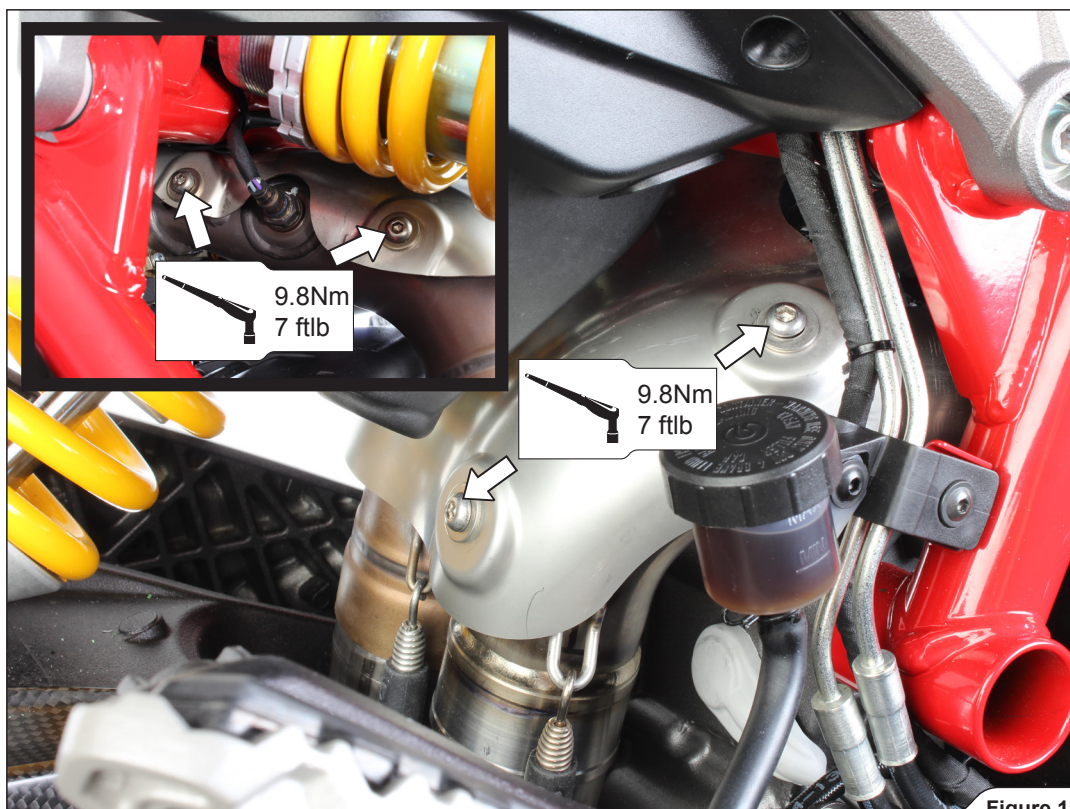

Figure 18
5. Install the rear stock heat shield, using stock bolts and washers (Figure 18).